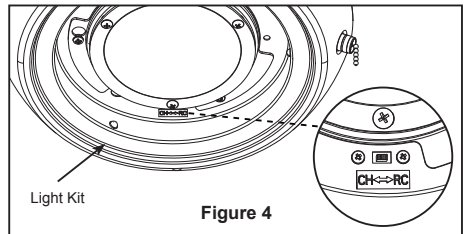

Figure 4
4. Slide the switch to "CH" when use the pull chain of light kit. Slide the switch to "RC" while the fan is using with optional remote control-CR500 accessory. (Figure 4)